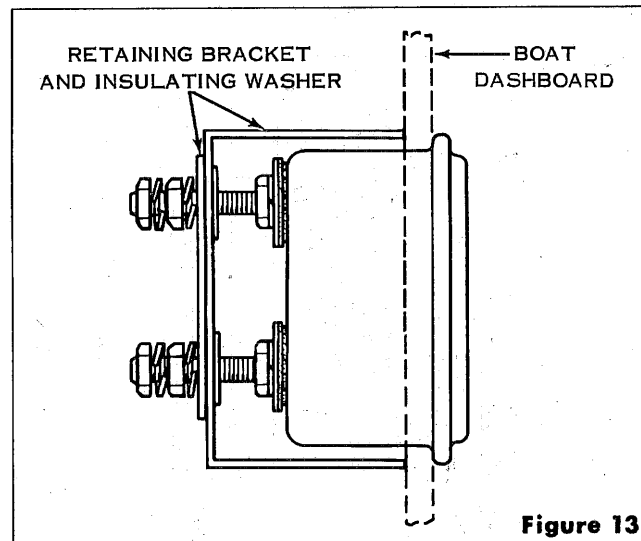

Figure 13
4. Insert the ammeter through hole in the dashboard from the front side. Install the retaining bracket and insulating washer, and reconnect the green wire to the ammeter terminal (marked BAT). Make sure the retaining bracket legs are bearing against the dashboard surface and tighten securely. See Figure 13.